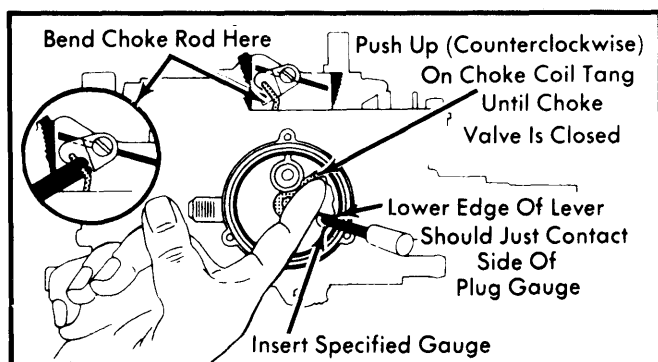

Fig. 3 Adjusting Choke Coil Lever
- 1) Remove 3 choke cover retaining rivets, if necessary. Then remove choke cover and coil from choke housing. See Fig. 3. Place fast idle cam follower on high step of fast idle cam.